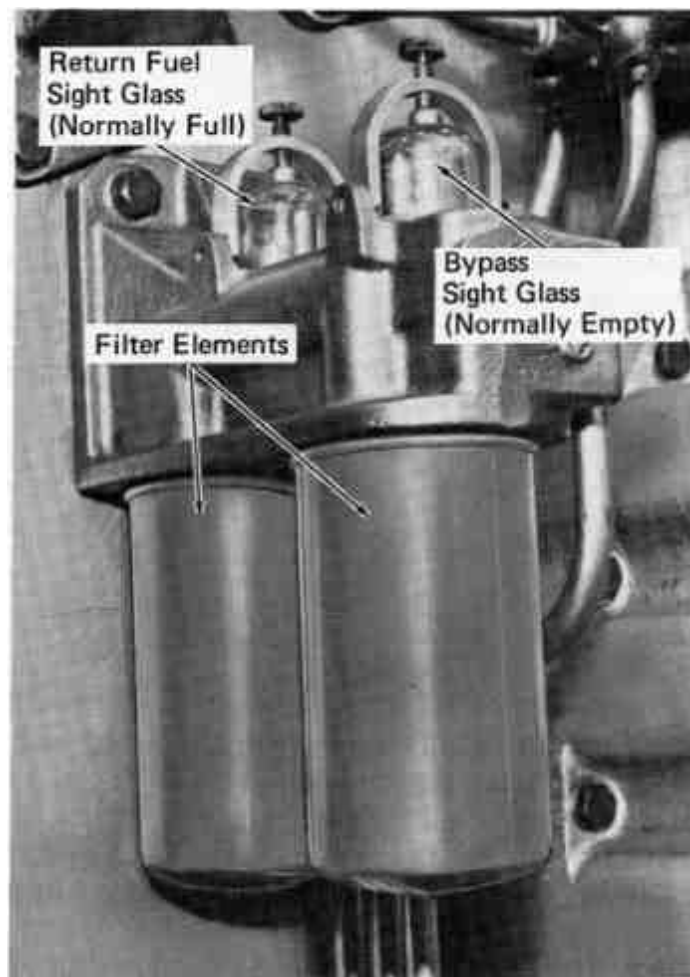

Fig.3-3 - Fuel Oil Sight Glasses
9. At the equipment rack in the engineroom, place the fuel prime/engine start switch in the PRIME position until fuel flows in the return fuel sight glass clear and free of bubbles (normally 10 to 15 seconds). See Fig. 3-3.